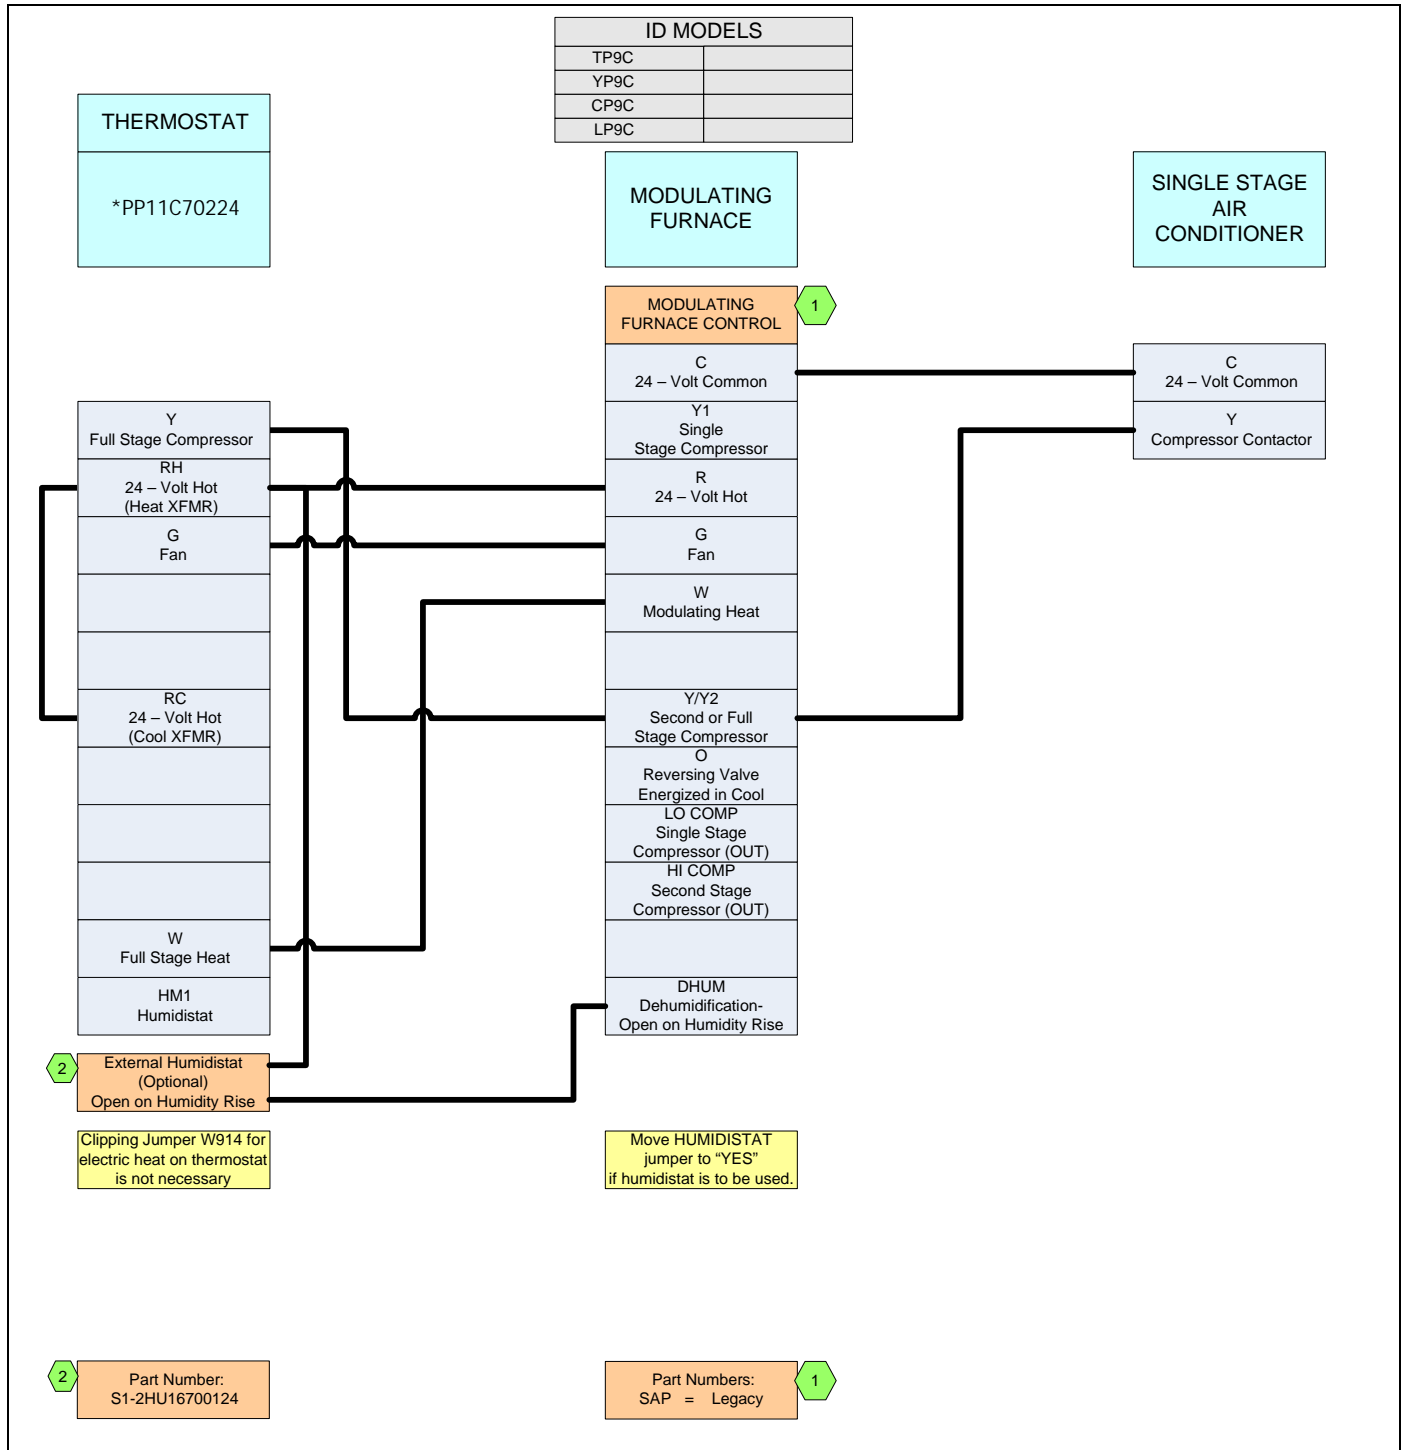

FIGURE 21: Thermostat Chart - Single Stage Air Conditioner – Variable Speed Modulating Furnace
**For Single-Stage A/C** - Connect the low voltage wiring as shown in Figure 21.